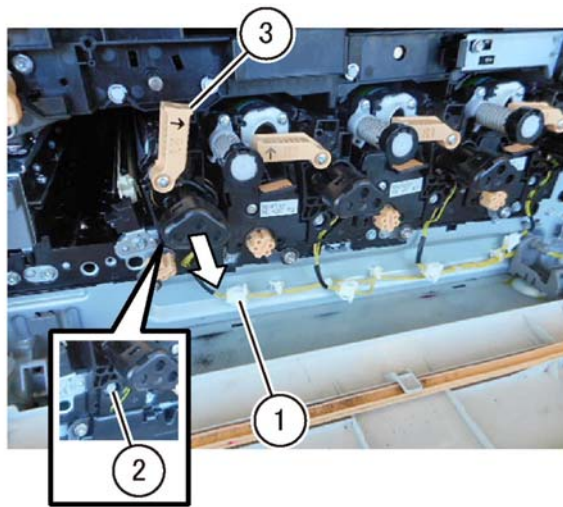

Figure 3 Developer unit removal
8. Remove the developer unit, Figure 3.
- a. Disconnect the connector (1).
- b. Remove the screw (2).
- c. Turn and hold the lever (3) and remove the developer unit.